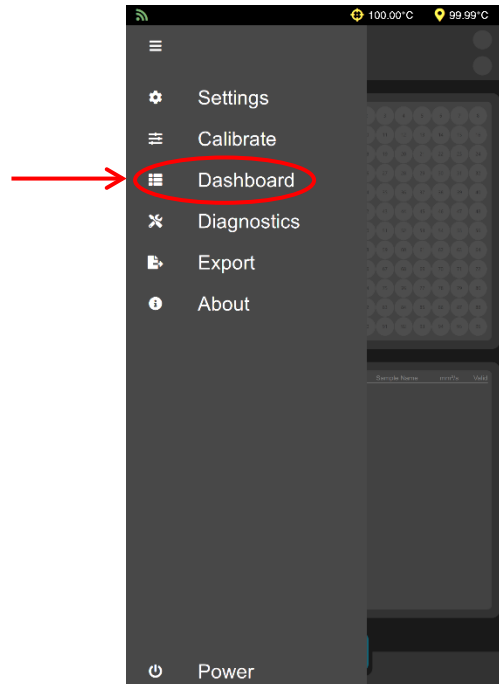

Figure 48: Select Dashboard
2. From the **Main Menu** select **Dashboard**. See Figure 48.